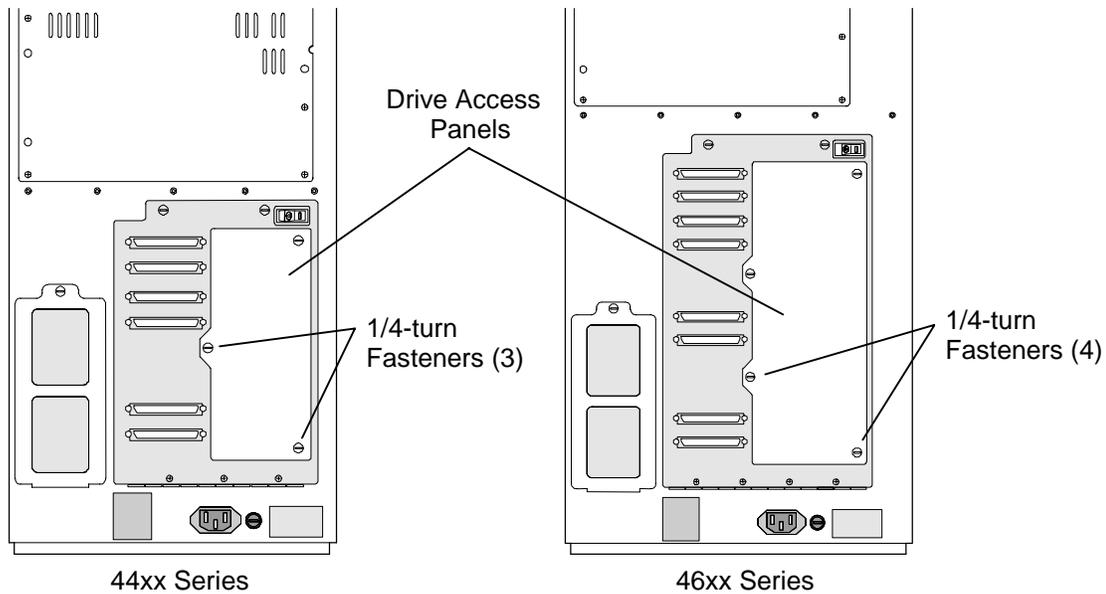
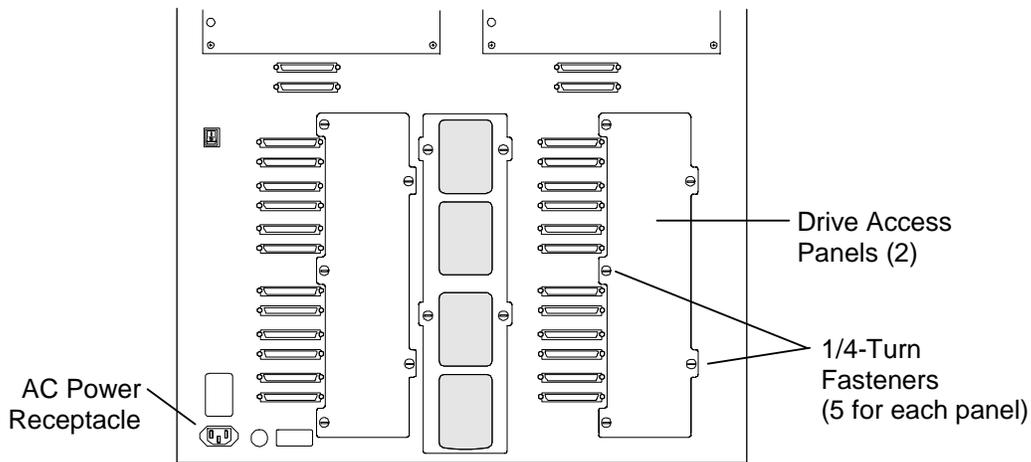

Figure 3-7 TLS Rear View (44xx and 46xx shown)
Figure 3-8 TLS Rear View (412xxx shown)
On TLS-44xx and TLS-46xx series libraries, remove the Drive Access Panel at the rear of the TLS by turning the three or four 1/4-Turn Fasteners one quarter-turn counter-clockwise (see Figure 3-7).
On 412xxx series libraries, remove the appropriate Drive Access Panel at the rear on the TLS by turning the five 1/4-Turn Fasteners one quarter-turn counter-clockwise (see Figure 3-8).
2. On TLS-44xx, TLS-46xx and TLS-412xxx series libraries, replace the Drive Access Panel at the rear of the TLS and secure by turning the three, four or five 1/4-Turn Fasteners one quarter-turn clockwise (see Figure 3-7 and Figure 3-8).